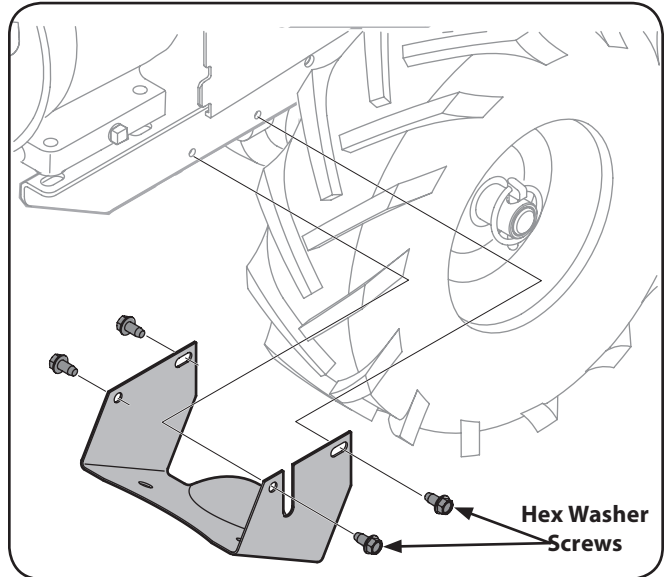

Figure 7-2
3. Remove the four hex washer screws that secure the pulley shield to the frame as seen in Figure 7-2. Remove the pulley shield and set aside in a safe location until reinstallation.